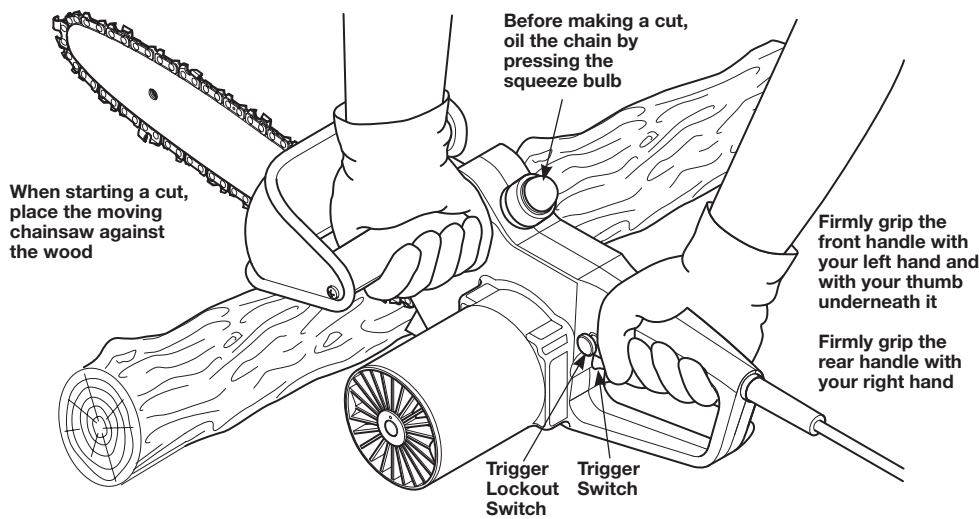

Fig. 8 Safe Procedure for Cutting a Log with the Chain saw
3. Securely grip both handles of the chain saw with your thumbs and fingers. Use a firm grip with your left hand on the front handle with your thumb underneath. Use your right hand to firmly grip the rear handle (Fig. 8).
5. When you are ready to make a cut, press the trigger lockout switch in with your right thumb while also squeezing the trigger with your right hand fingers (Fig. 8). This will immediately switch the power of the chain saw on. Releasing the trigger switches it off.
7. When starting a cut, place the moving chain saw against the wood (Fig. 8). Hold the chain saw firmly in place while cutting through the log. This will help to prevent a possible bouncing or skating, sideways movement of the log.